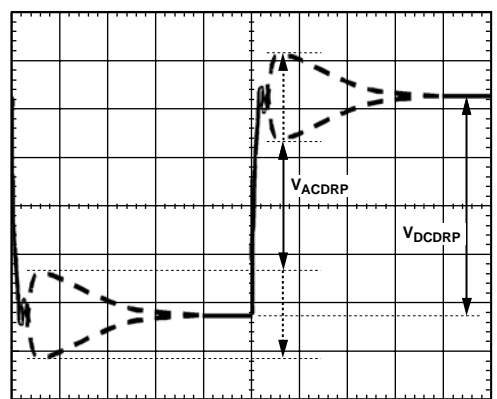

Figure 12. AC Loadline Waveform
14. Measure the output waveform (you might have to use dc offset on scope to see the waveform). Try to use a vertical scale of 100 mV/div or finer. This waveform should look similar to Figure 12.
- $$C_{CS(NEW)} = C_{CS(OLD)} \times \frac{V_{ACDRP}}{V_{DCDRP}} \quad (38)$$